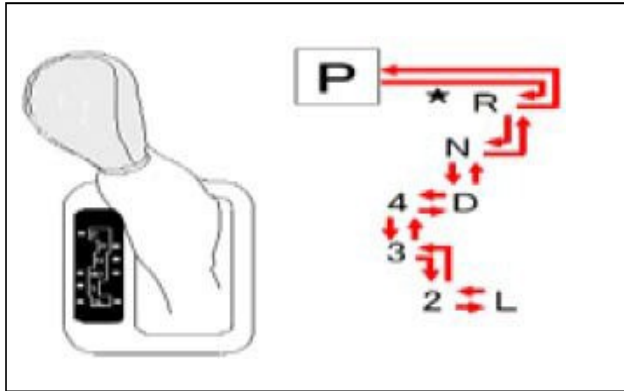

Figure 1
2. Put transmission in "P" (automatic) or reverse (manual). Lift Vehicle. See Figure 1.